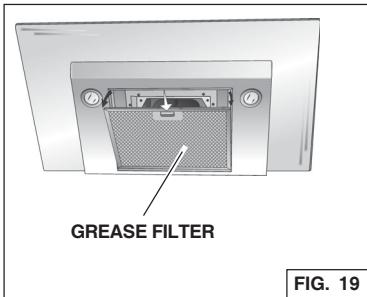

FIG. 19
1. To remove the GREASE filter, grip the latch tab and pull it down. This will disengage the filter from the hood. Tilt the filter downward and remove. Fig. 19.
2. To install the GREASE filter, align rear filter tabs with slots in the hood. Pull latch tab down, push filter into position and release. Make sure the filter is securely engaged after installation. Fig.19.